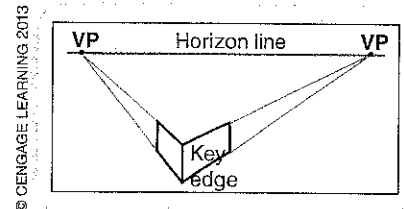

Figure 5-54: Sketch in the far edges of the two visible sides of the cube.
- Step 3. Now, draw the vertical lines that represent the far edges of the two side walls on either side of the key edge (see Figure 5-54). Outline each side of the box. The side that is closer to a vanishing point will be shorter than the other side.